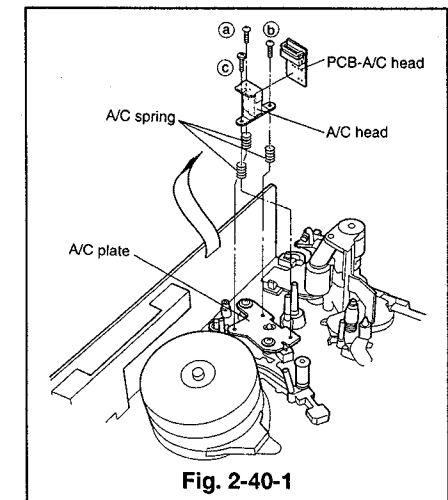

Fig. 2-40-1
- ① Disconnect the lead connector connected to the PCB-A/C-HEAD. (Refer to Item ① of Para. 2-39 for the removal method.)
- ② Remove the three screws (a, b and c), shown in Fig. 2-40-1 to remove the A/C head.
- ③ Unsolder the PCB-A/C HEAD from the A/C head. (Refer to Fig. 2-40-1.)
- ① Install the A/C head with the A/C spring and the three screws (a, b and c) as shown in Fig. 2-40-1.